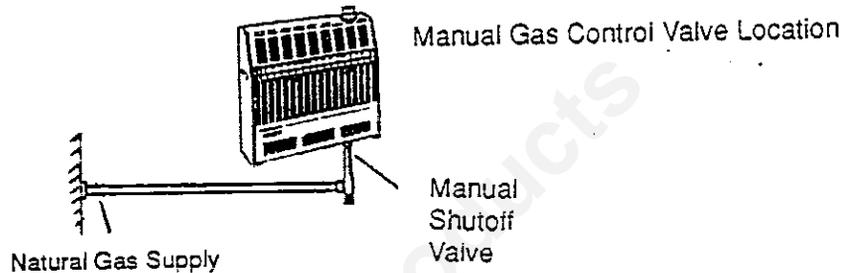

Figure 8 - Checking Gas Joints
3. Check all joints from gas meter to thermostat gas valve (see Figure 8). Correct any leak defect at once. (Bubbles forming indicate a gas leak)